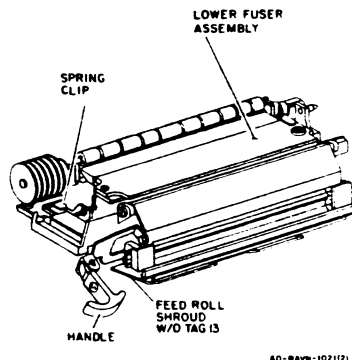

Figure 1. Removing the Lower Fuser
- 3 RELEASE THE LOWER FUSER ASSEMBLY FROM THE SLIDE ASSEMBLY BY PUSHING DOWN ON THE SPRING CLIP (FIGURE 1).